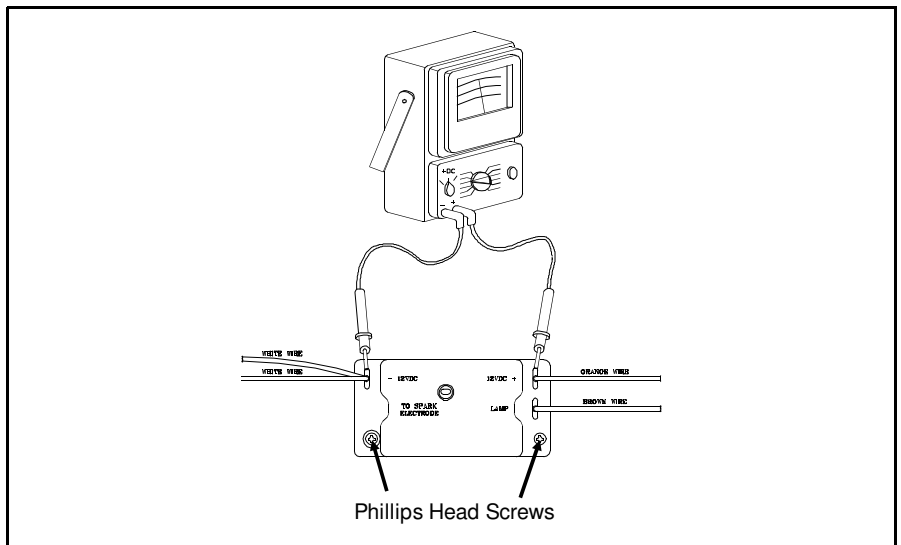

Figure 3.22 12 Volt Check at White and Orange Terminals
- Then remove Phillips head screws which retain relighter in position as illustrated in Figure 3.22. Reconnect the spark wire.